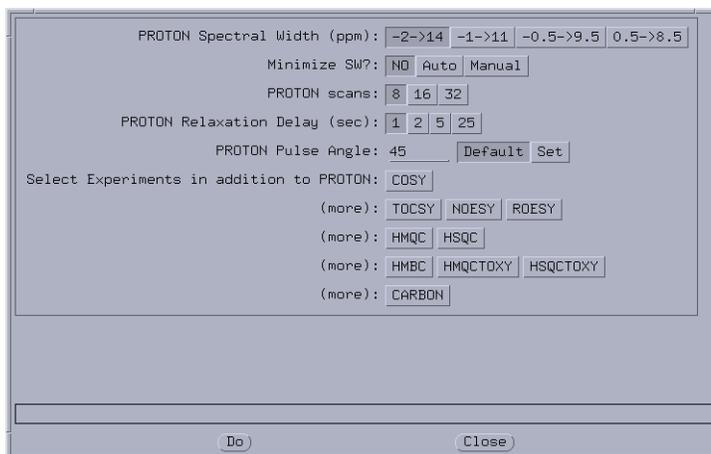

Figure 9. Experiment Selection Window for Nongradient Experiments
- If you have a non-gradient probe (or the gradient field in the probe definition file is set to *N*) the Experiment Selection window shown in Figure 9 is displayed.